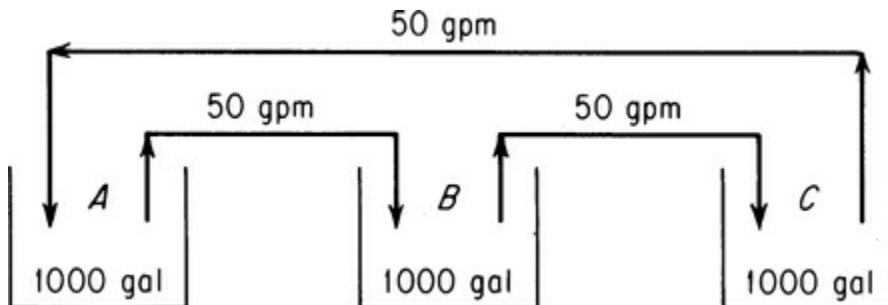

Figure P11.3.21
- 11.3.21** Tanks A, B, and C are each filled with 1000 gal of water. See Figure P11.3.21. Workers have instructions to dissolve 2000 lb of salt in each tank. By mistake, 3000 lb are dissolved in each of tanks A and C and none in B. You wish to bring all of the compositions to within 5% of the specified 2 lb/gal. If the units are connected A—B—C—A by three 50 gal/min (gpm) pumps: